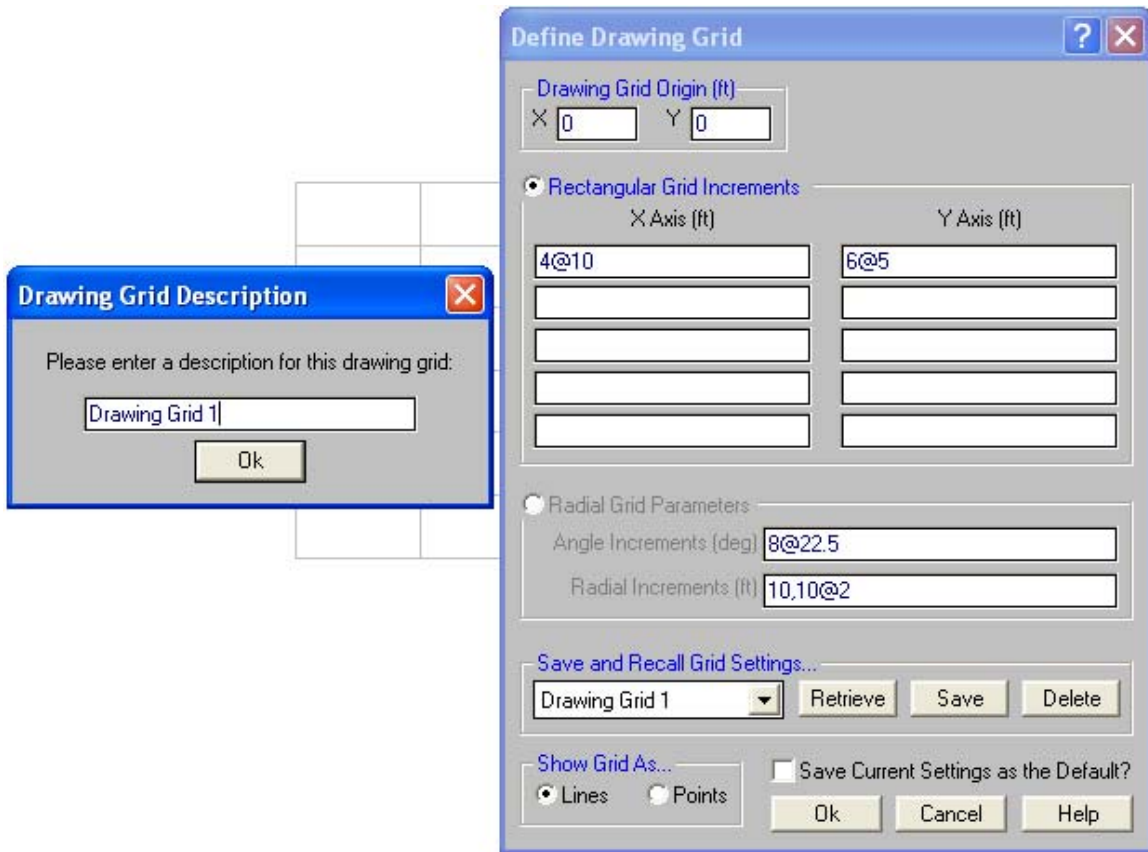

Figure 5
- (2) To establish the grid dimensions, click **Modify** (top screen) and select **Grid**. A **Define Drawing Grid** table appears (Figure 5). This table shows that the program assigns default values of 30 units, 1 ft in length, to the y-direction and 30 units, 1 ft in length, to the x-direction. The default value also positions the origin of the